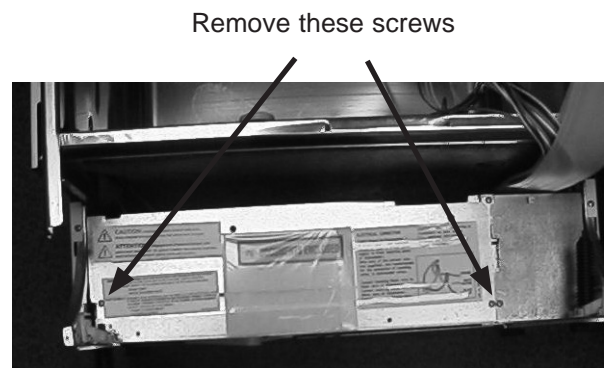

FIGURE 25
2. Remove screws on each side of lower access panel. (See Figure 25)